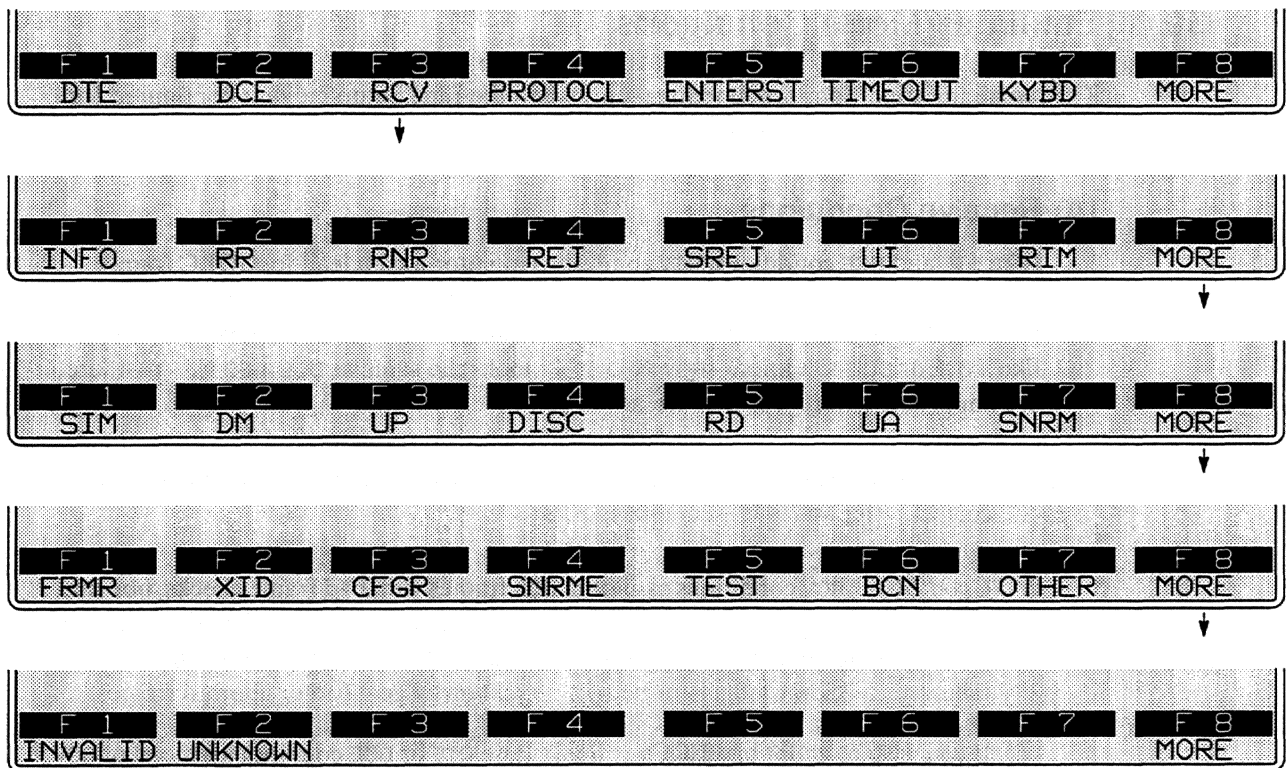

Figure 39-14 *INVALID* and *UNKNOWN* are frame types for *RCV* conditions.
3. *Type invalid or unknown.* RCV conditions can detect frames that are invalid “types”—the control field is missing, for example, or the I—field is missing in an I—frame. The Protocol Spreadsheet entry for this condition is RCV INVALID, and the softkey sequence is illustrated in Figure 39-14.
A frame may be valid in all respects but have a control field that indicates a nonstandard frame type. Such a frame may be matched by a RCV UNKNOWN condition (Figure 39-14).